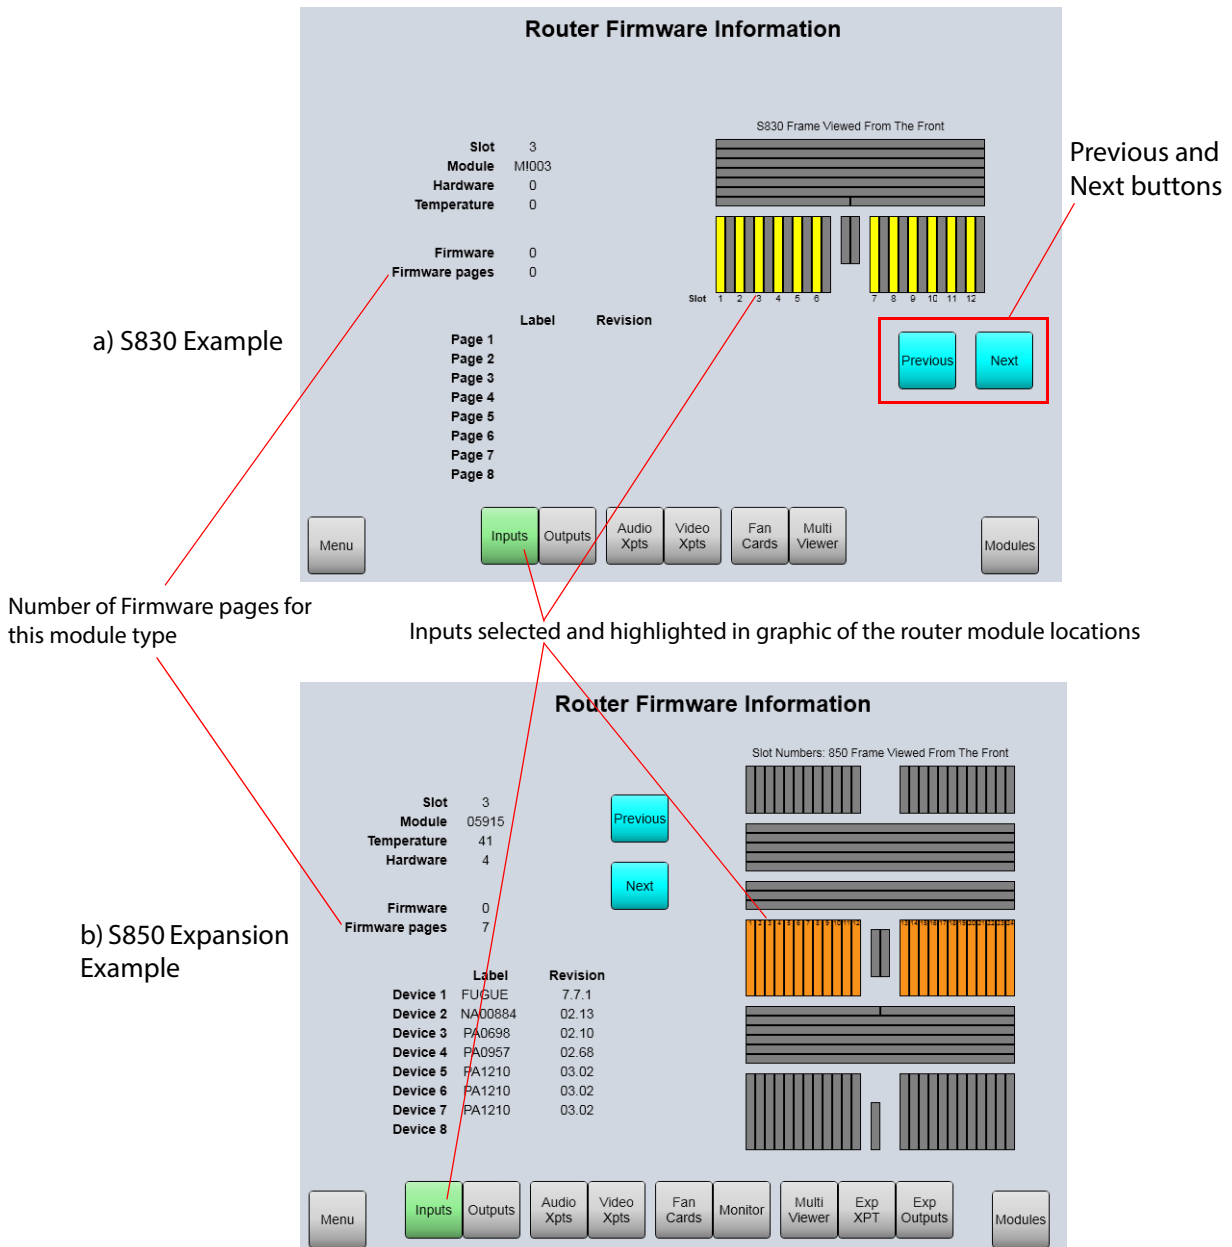

Figure 27 Module Firmware Screen Examples: a) S830; b) S850 Expansion
**Note:** The number of Firmware Pages containing information varies depending on the AHP module being viewed. The number of pages that should contain information is shown in Firmware pages line (see Figure 27). Firmware pages that are not used will be empty.